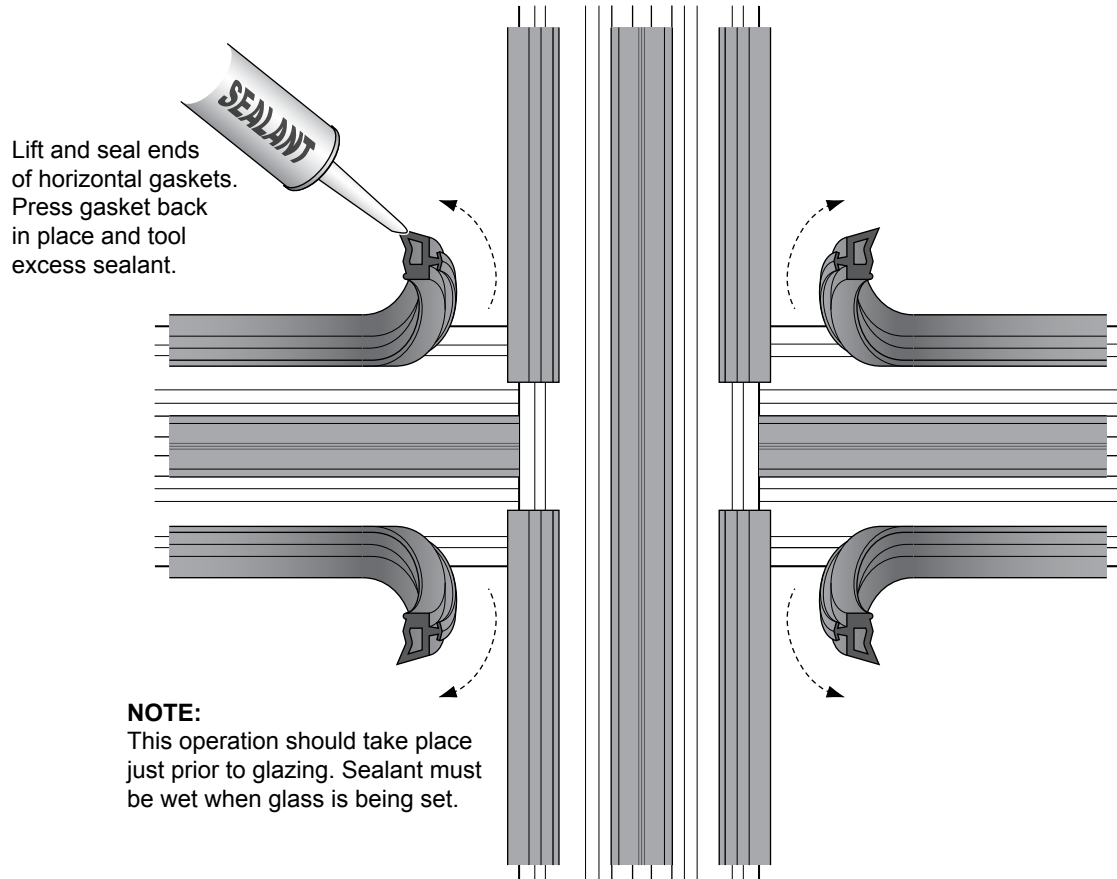

Fig. 43.1
- B. Pull interior horizontal gaskets away from vertical gaskets and seal corners where gaskets abut. Release horizontal gasket back to its original position. See **Fig. 43.1**.